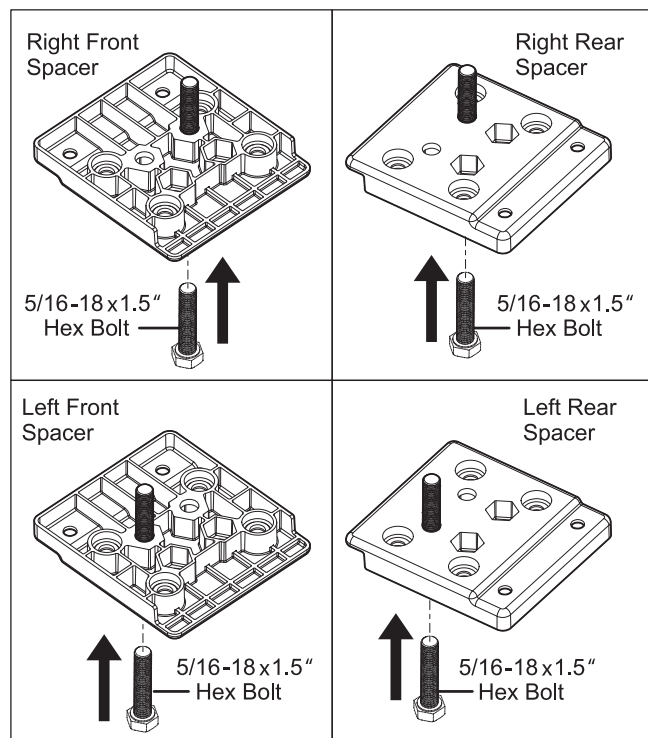

Figure 2-22.
4. Remove plastic spacers and Hex Bolt 5/16-18UNC x 1.5" from the box and assemble the two together as shown in Figure 2-22.